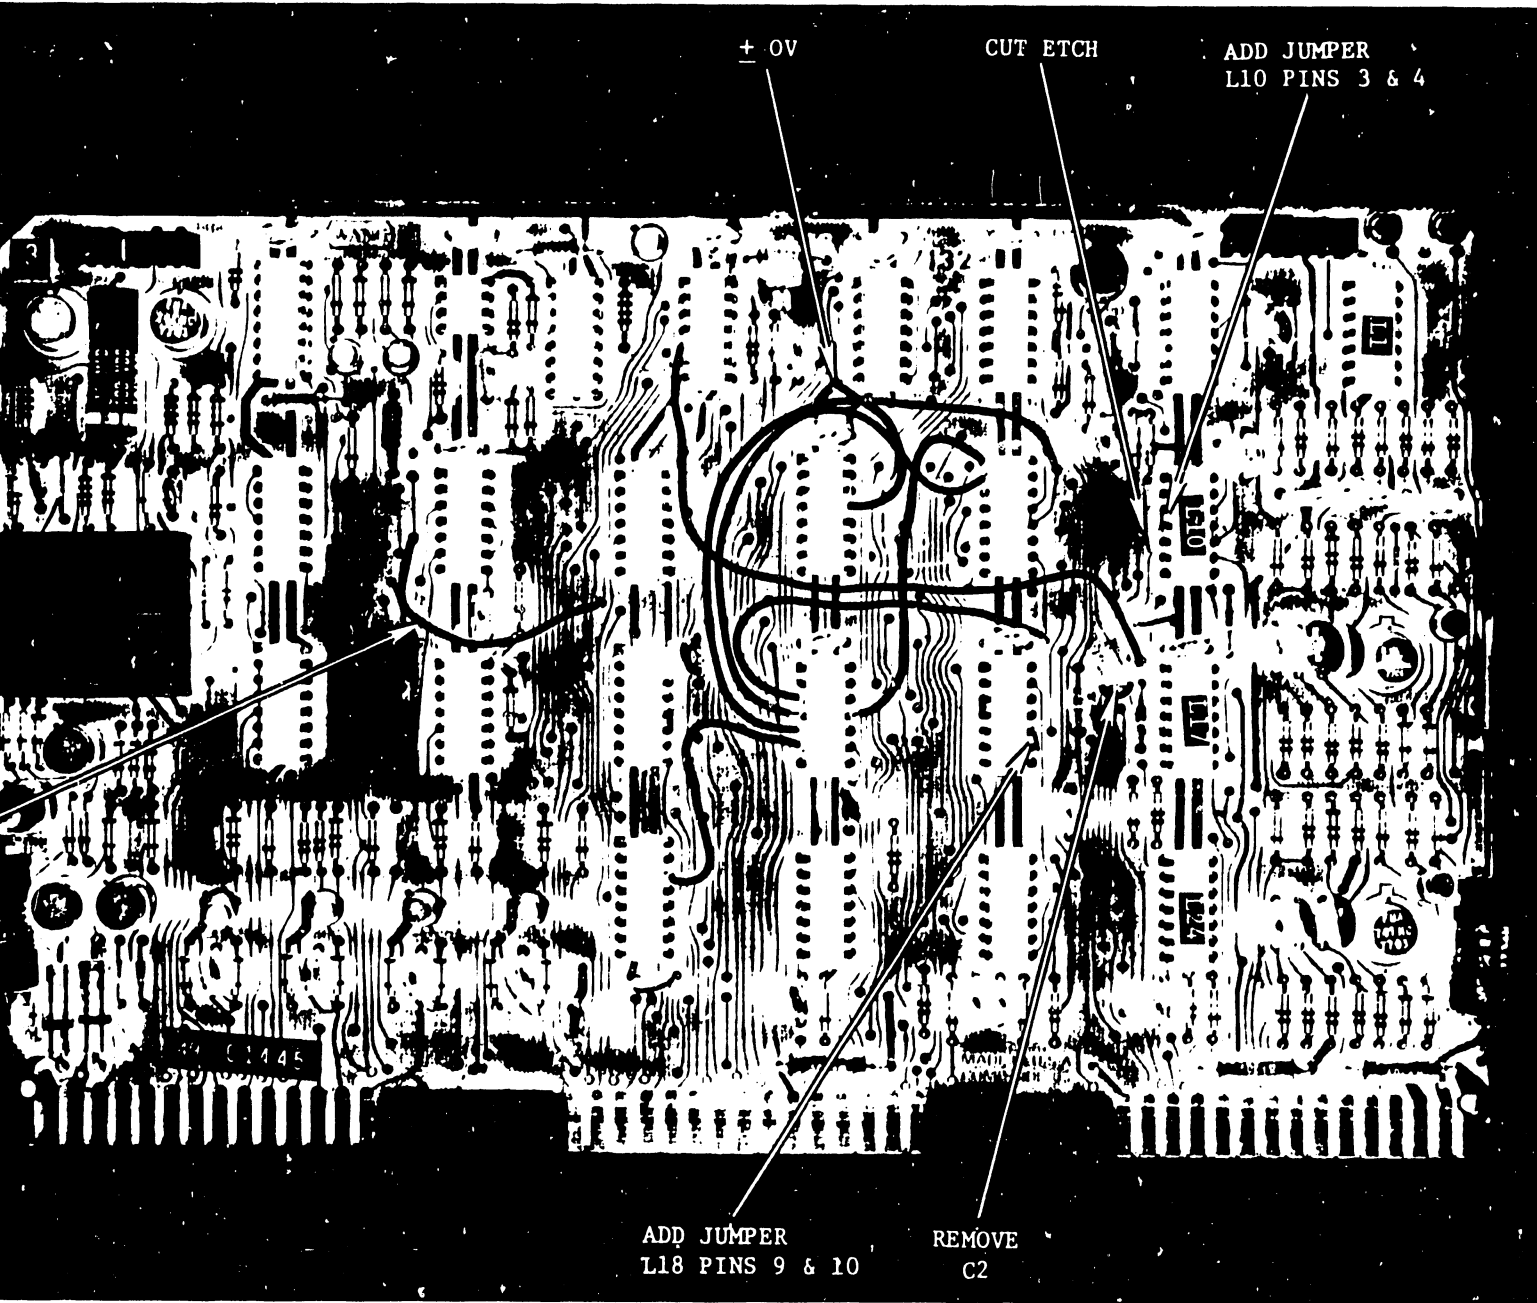

FIGURE 8-6 7132 PCB
- a. On the component side of the board: (Ref: Figure 8-6)
c. On the component side of the board, add the following jumper wires: (Ref: Figure 8-6)